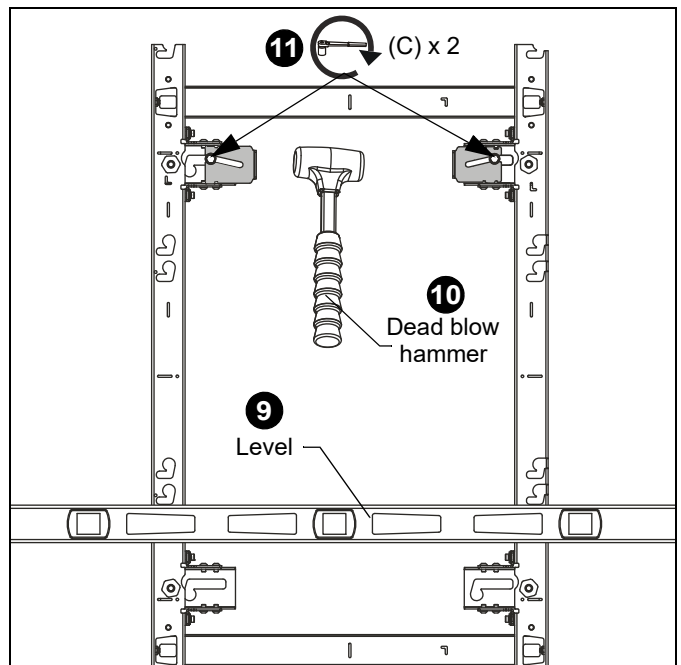

Figure 10
- Check the level of the mount at the bottom of the teardrop slots. (See Figure 10)
- If the mount is not level, slide or use a dead blow hammer to lightly tap the spacer into place. This will lift the mount up as the lag screw rides in the washer's angled slot. (See Figure 10)
- When the mount is leveled, tighten the lag screws (C). (See Figure 10)